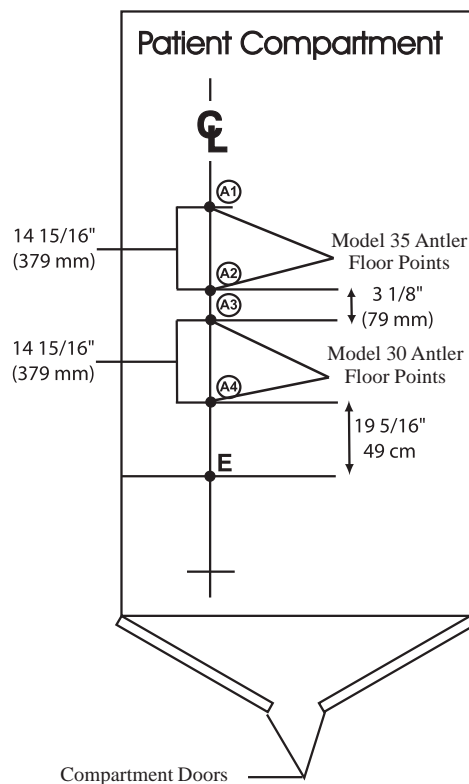

Figure 20 - Dual In-Line Installation
- Measure to place the antler template in two additional locations along the Centerline for the Model 30 cot, using Figure 20 for reference:
- Verify that you have correctly measured and marked the floor for these new points. As an additional check, The distance from Point E on the Centerline to Antler Point A4 should be the same as the Measurement E for the Model 30 cot ($19 \frac{5}{16}"$ /49 cm), as shown in Figure 20.